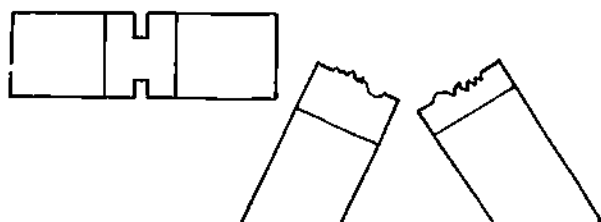

Figure 9-13. Nick Break Test
**Nick Break Test** The specimen is cut in on the sides (and on the top) with a hacksaw, clamped in a vise with the hacksaw cut flush with the top of the jaws, and hammered back and forth until it breaks in the centre of the weld (Figure 9-13). In a nick break testing machine, the specimen is broken sideways. Slag inclusions, porosity, lack of fusion and brittle welds (coarse grain) can be readily seen.